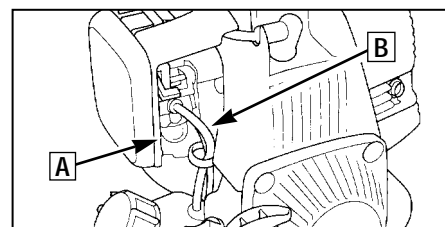

Figure 4
### Fuel Primer Bulb (Section 4, Figure 4)
3. To start a cold engine, or after refueling an engine that has run out of fuel, press the priming bulb (A, Figure 4) repeatedly until fuel can be seen in the clear-plastic fuel-return tube (B). To restart a warm engine, it is not necessary to press the priming bulb.